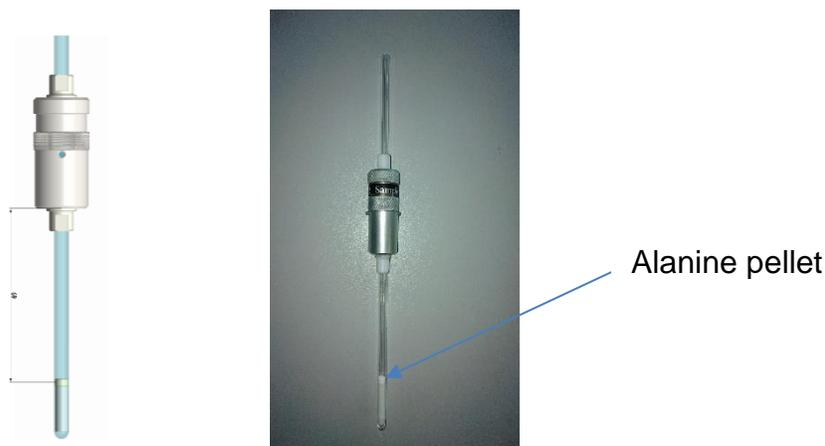

Figure 6.3
8. In case of using the holder for precise positioning, loosen the Teflon inserts at the top and bottom of holder, place the sample the sample ampoule with the outer diameter corresponding to the Teflon inserts and gently clamp back in. The distance between the center of the sample and the bottom of the metal holder should be 69 mm (Fig.6.3);